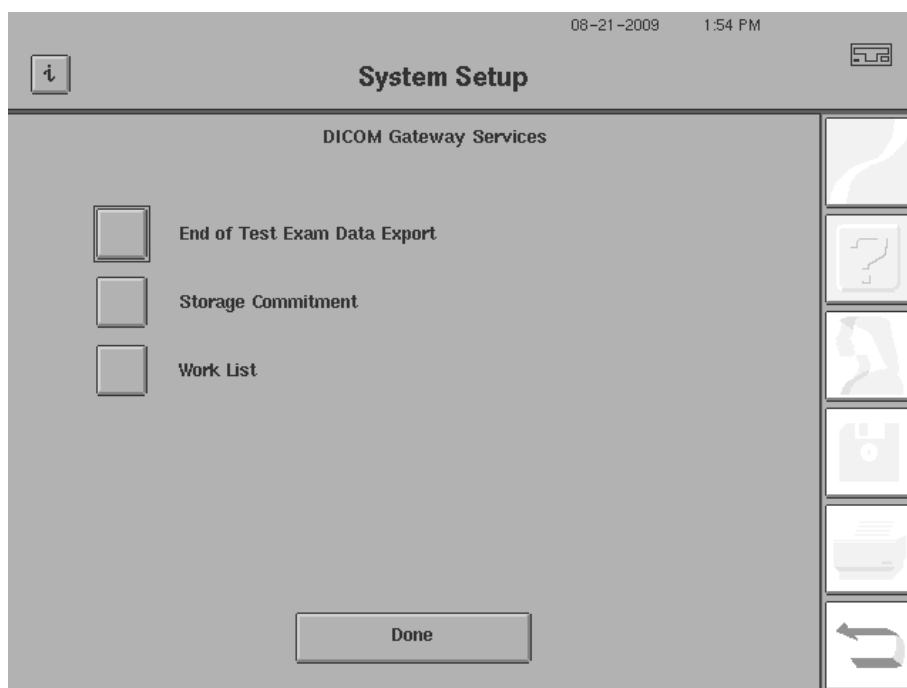

Figure H.2 DICOM Gateway Services Screen
- 12 Select SERVICES to display the DICOM Gateway Services screen (Figure H.2).